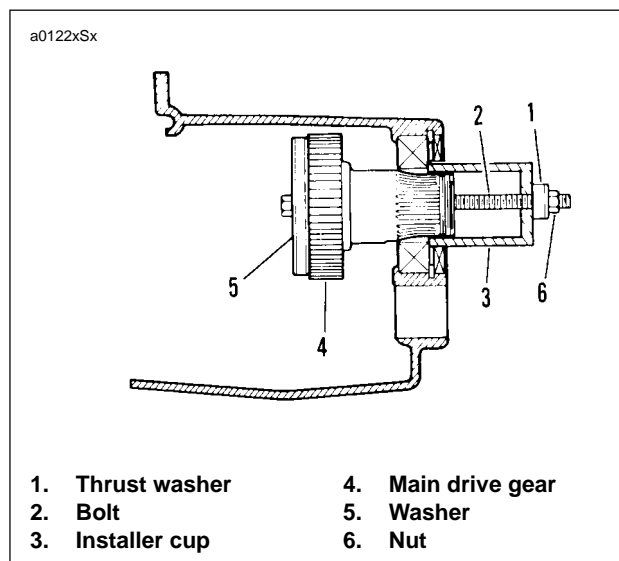
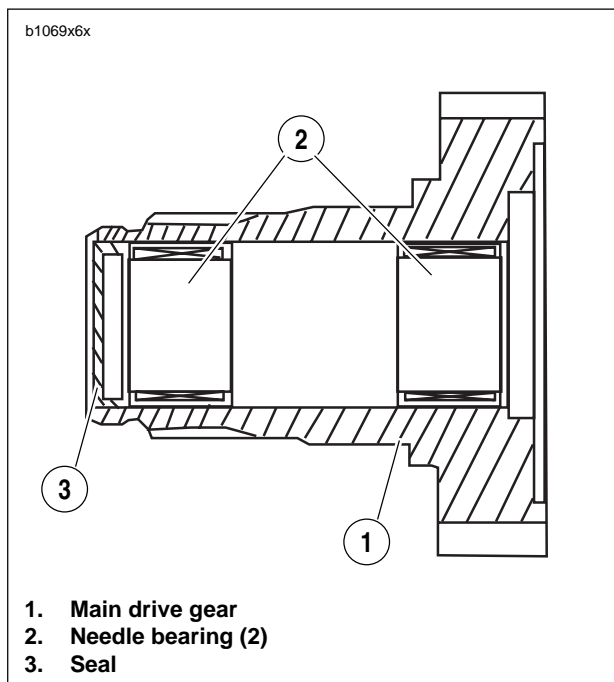

Figure 6-71. Main Drive Gear Installation
Figure 6-72. Main Drive Gear Assembly
2. See Figure 6-71. Use MAIN DRIVE GEAR REMOVER AND INSTALLER (Part No. HD-35316-A) for assembly.
- a. Take bolt (2) and place washer (5) followed by main drive gear (4) over end of bolt.
- c. Insert threaded end of bolt (2) through installer cup (3) and thrust washer (1).
- d. Thread nut (6) onto end of bolt (2). Tighten nut (6) until shoulder on gear (4) bottoms against inner race of bearing.
3. See Figure 6-72. Tap in **new** seal (3) at threaded end of 5th gear to a depth of 0.060-0.030 in. (1.524-0.762 mm).